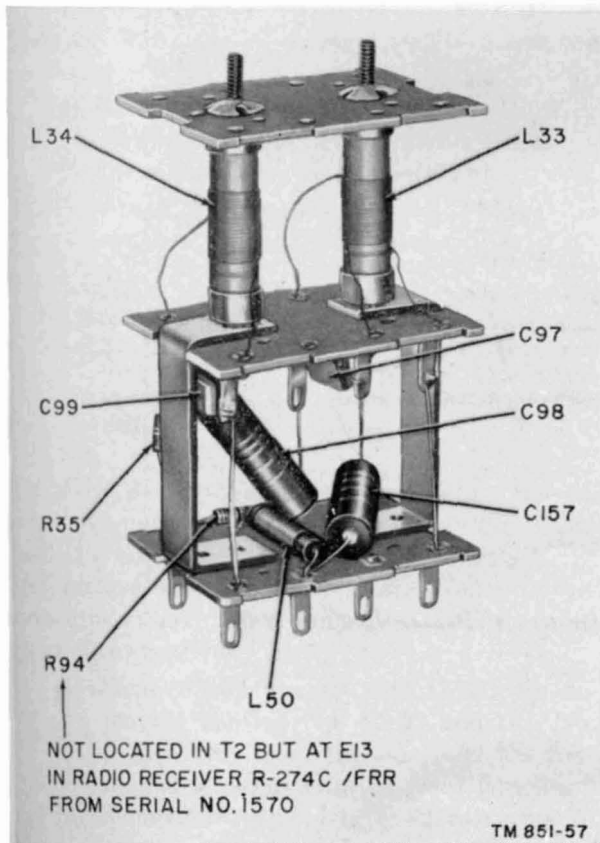

Figure 79. Radio receiver, all types, 3955-kc. i-f transformer subassembly T2.
b. *Shielded Subassemblies* (figs. 79 through 83). To replace any part in the T2, T3, T4, T5, T6, and T9 subassemblies, first remove the subassembly shield can by removing the two or four No. 6-32 machine screws that hold it in place. Then unsolder the externally connected leads to the subassembly. To remove the subassembly for repair, remove the two No. 6-32 machine screws that mount it to the receiver chassis. To remove the bfo subassembly (T6), loosen the four setscrews on the flexible coupling. In Radio Receivers R-274A/FRR and R-274C/FRR, the frequency control unit extension shaft for S2 must be removed first before the shield can and the bfo subassembly can be removed.